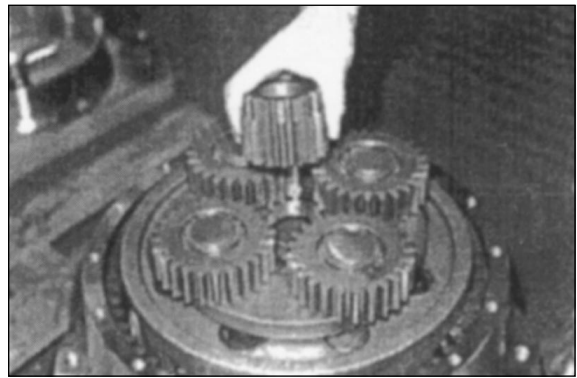

Figure 82
20. Remove second sun gear. Figure 82.